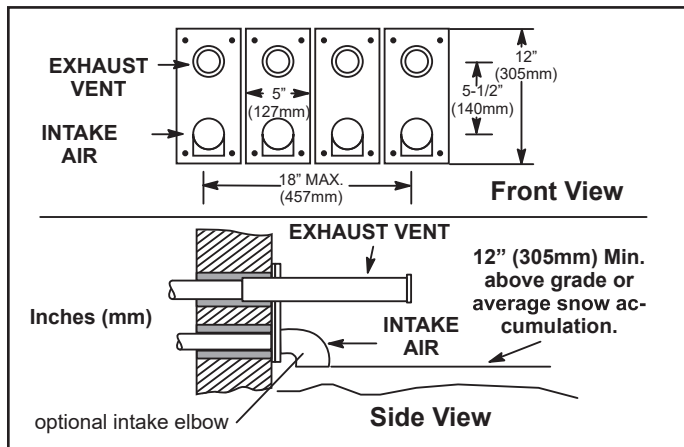

Figure 31. Optional Vent Termination for Multiple Unit Installation of Direct Vent Wall Termination
8. A multiple furnace installation may use a group of up to four terminations assembled together horizontally, as shown in Figure 31.